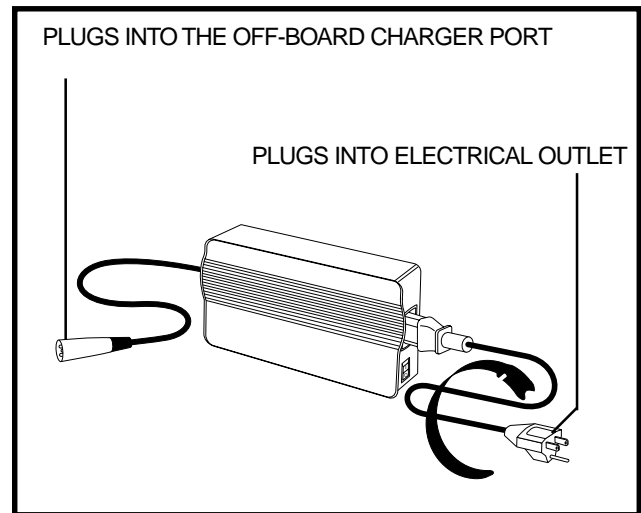

Figure 12A. Off-board Charger
4. Plug the 3-pin charger power cord into the off-board charger port. See figure 12A.